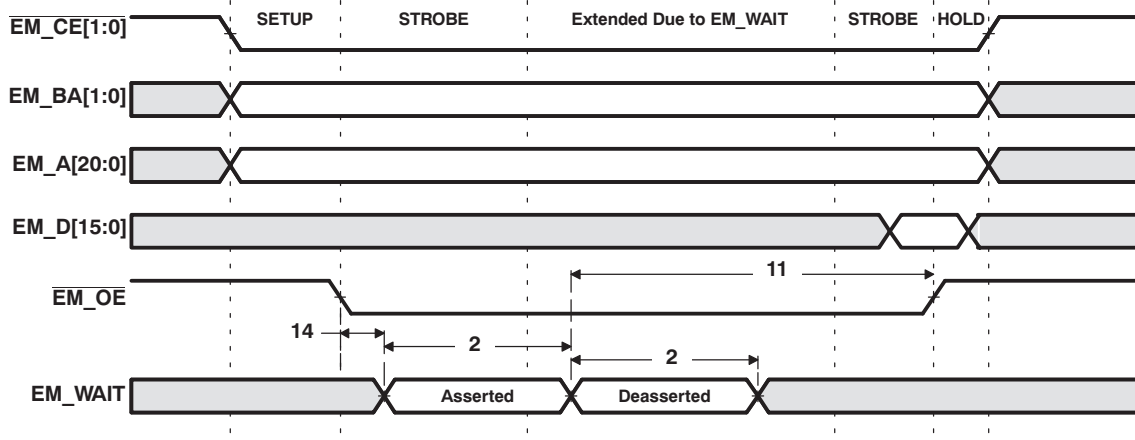
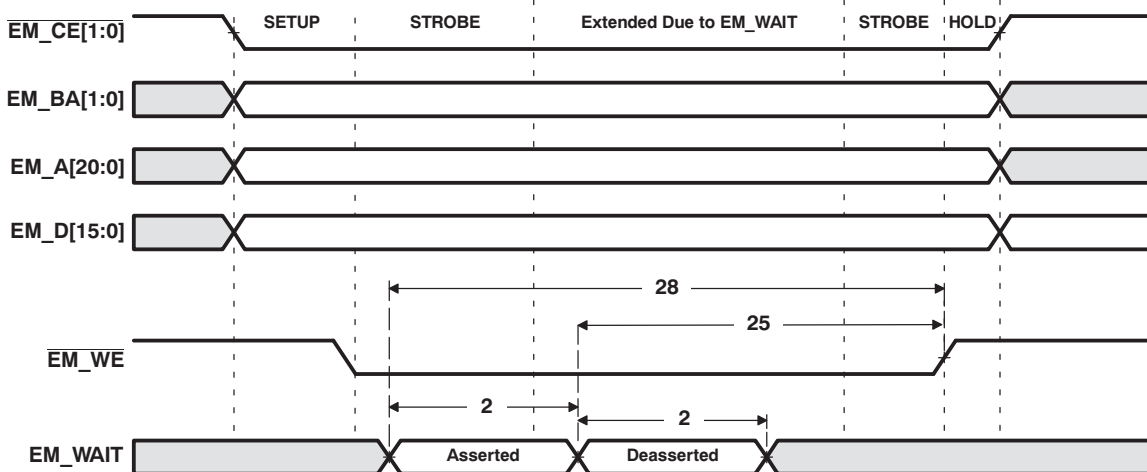

Figure 6-15. EM_WAIT Read Timing Requirements
Figure 6-16. EM_WAIT Write Timing Requirements
(1) E = PLLC1 SYCLK2 period in ns. SYCLK2 is the EMIF peripheral clock. SYCLK2 is one-fourth the PLLC output clock. For example, when PLLC output clock = 432 MHz, E = 9.259 ns. See Section 3.3 for more information.
(2) Setup before end of STROBE phase (if no extended wait states are inserted) by which EM_WAIT must be asserted to add extended wait states. Figure 6-15 and Figure 6-16 describe EMIF transactions that include extended wait states inserted during the STROBE phase. However, cycles inserted as part of this extended wait period should not be counted; the 4E requirement is to the start of where the HOLD phase would begin if there were no extended wait cycles.